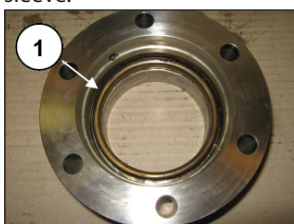

Fig. 222
Install the head ring (pos. ①, Fig. 222), the high pressure seal (pos. ①, Fig. 223) and the restop ring (pos. ①, Fig. 224) on the sleeve.